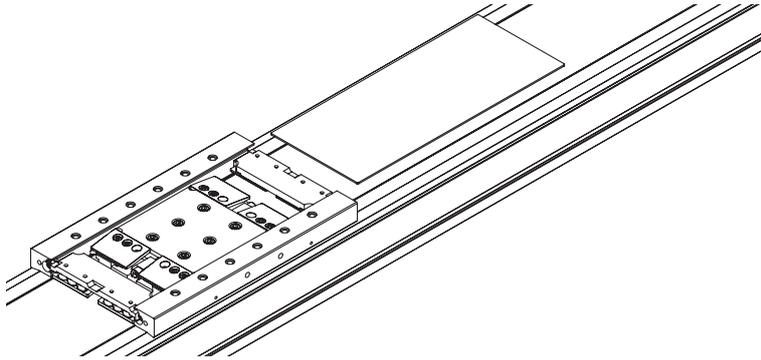

Fig. 7.12 Removing/mounting the carriage cover
- ▶ Remove the carriage cover by pushing it out of the carriage profile (see Fig. 7.12).
- ▶ Mount the carriage cover by inserting it into the groove of the carriage profile and the cover strip deflection (see Fig. 7.12).